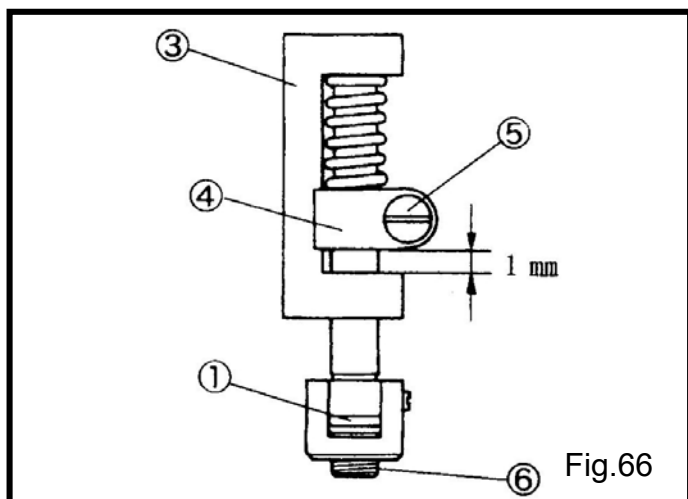

Fig.66
- (2) 刀座③和壓力彈簧軸環④之間的標準間隙為 1.0mm。(Fig.66)
- (3) 鬆開螺絲⑤和移動軸環④調整壓力。
- 增加壓力往上移動彈簧軸環④。
- 減少壓力往下移動彈簧軸環④。
- (2) The standard clearance between the bearing of the knife holder shank support③ and the knife holder guide collar④ is 1.0 mm. (Fig.66)
- (3) Loosen the screw⑤ and move the knife holder guide collar④ to adjust the pressure.
- To increase the pressure, move the collar④ upward.
- To decrease the pressure, move the collar④ downward.